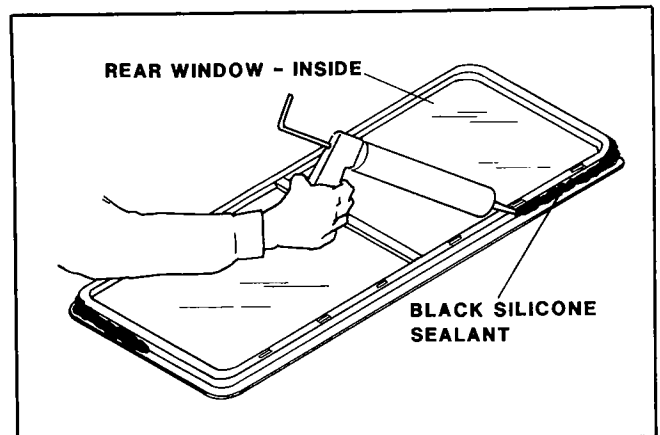

Figure 42. Applying Silicone Sealant to Front or Rear Window Frame
2. Caulk around frame of window unit completely using black silicone sealant (3M Automotive P/N 08511 - 5 oz. tube). Apply heavy bead around corners which are typical trouble spots for leakage (figure 42).